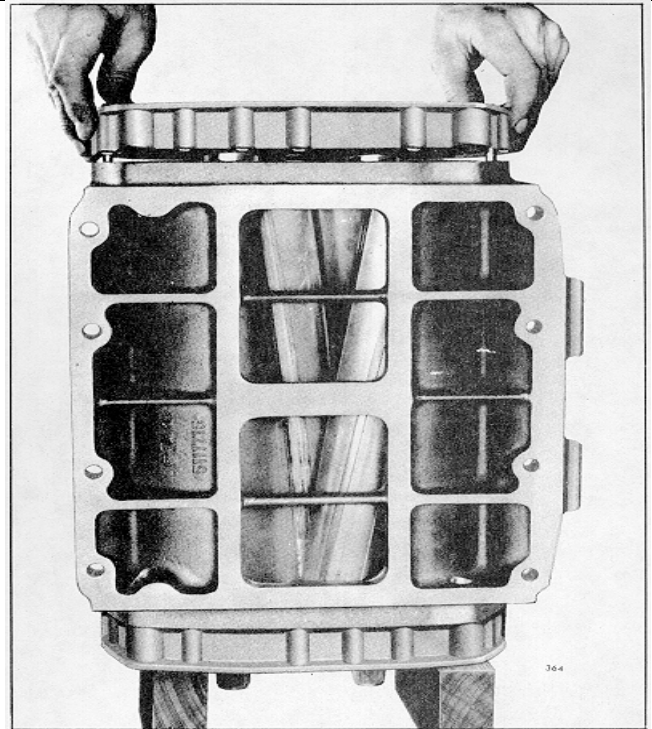

Fig. 21 - Installing Front End Plate on Blower Rotors and Housing (Ring Type Oil Seals)
- d. Position the front end plate over the top of the rotor shafts with the inner face of the end plate facing the rotors and the mark "TOP" on the end plate at the flange side of the housing as shown in Fig. 21.
- e. Lower the end plate straight over the rotor shafts until the dowel pins in the end plate contact the blower housing (Fig. 21); then